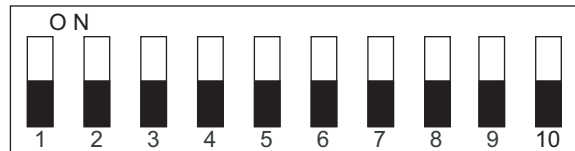

Figure 8 DIP Switches — OFF Positions
**Figure 8** shows all the DIP Switches in the **OFF** position.